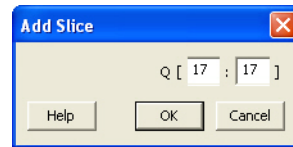

Figure 1-19 • Add Slice Dialog Box
17. Enter **17:17** in the Add Slice dialog box and click **OK** to continue (Figure 1-19).